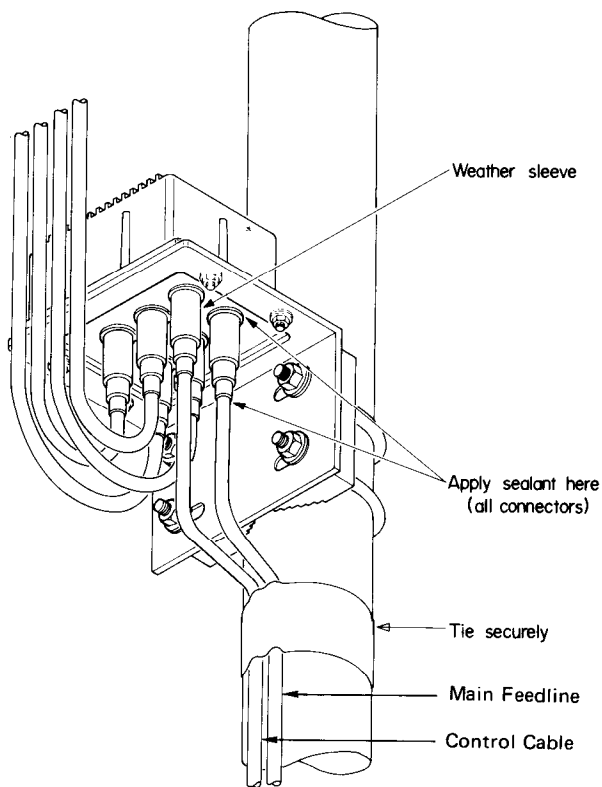

Figure 4
4. Mate the connectors, one at a time, with their jacks on the FAS-1-4R, applying sealing compound around each mated fitting after the weather sleeve has been slid over the connector (Figure 4).